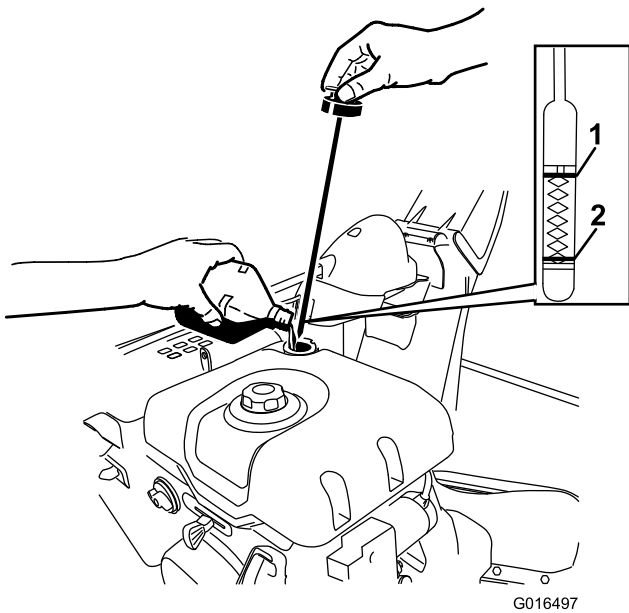

Figure 40
- Remove the dipstick and check the oil level (Figure 40). If the oil level is below the Add mark on the dipstick, add oil. Refer to Changing the Engine Oil \(page 22\).